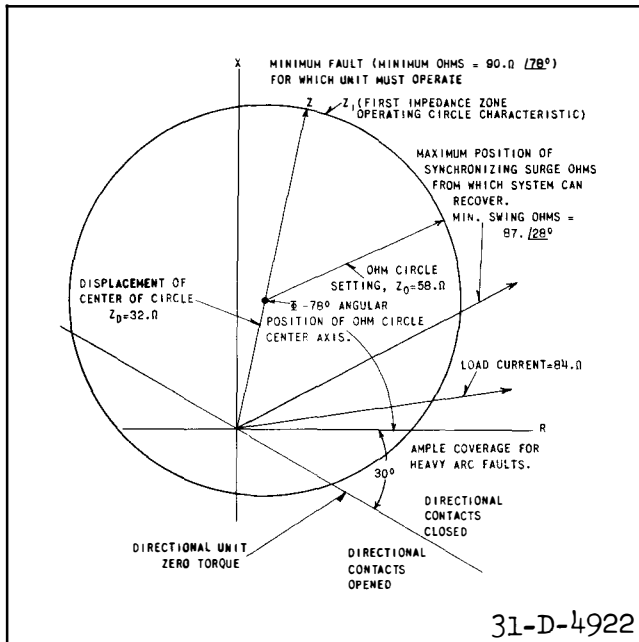

Fig. 6 Transmission Line and Relay Characteristics Plotted on R and X Coordinates in Primary Ohms.
origin of the R-X diagram as shown in Fig. 6. This allows longer settings for the relay without including the swing vector or load impedance vector.
A single-phase directional unit is used in conjunction with the impedance units. The operating range is shown in Fig. 6. For distance relaying, its contacts are so arranged that the portion of impedance circle below the zero torque line is cut off. The directional unit in conjunction with its potential circuit is designed so that the maximum torque occurs when the current leads voltage by approximately 30 degrees. The 90-degree connection is used; hence the voltage circuit receives delta voltage and the current circuit receives the star current that leads this voltage by 90 degrees at 100% power factor. The directional unit closes its contacts when current flows into the line section which is to be protected.
1. The circle must pass through the point of the vector Z and must completely enclose the vector Z. (See Fig. 6.)
Plot the transmission line characteristics on "R" and "X" coordinates as shown in Fig. 6. An operating circle should then be drawn of a diameter and location to fulfill the conditions previously stated.
The displacement angle used in drawing the operating circle should be set on the relay by adjusting the resistor mounted above its offset transformer in accordance with the curve of Fig. 5a. In Fig. 6 the angle used was 78 degrees; therefore, the resistor should be
The distance expressed in ohms impedance between the center of the modified impedance circle and the intersection of the "R" and "X" axis should be measured from Fig. 6, and the offset transformer set using the following formula: